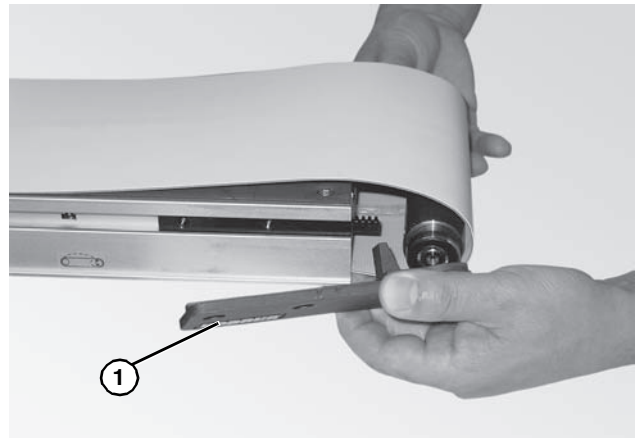

Figure 40
2. Place the head plate (**Figure 40, item 1**) and attach the head plate to the conveyor frame with the two (2) screws removed. Tighten screws 60 in-lb (7 Nm).